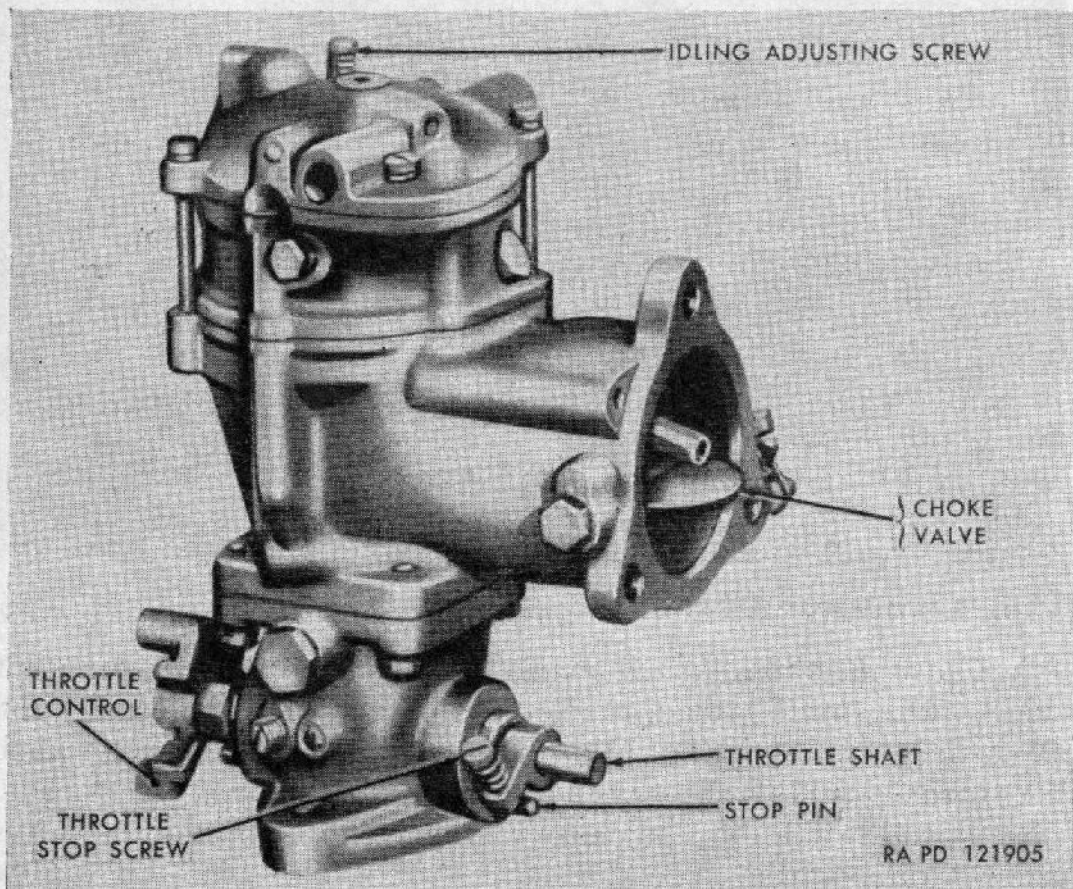

Figure 57. Carburetor assembly.
b. Carburetor Throttle Controls (Each Engine). Unscrew throttle stop screws at each carburetor until throttle shaft arm is against the stop pin (fig. 57). Throttle shaft movement will now be the same for both carburetors. Turn throttle stop screw on front carburetor in (clockwise) against the stop pin to hold the throttle slightly open. Turn stop screw on rear carburetor in even with the first so that both will contact their stop pins. This adjustment will synchronize the throttle controls.
d. Idling Screw (fig. 57). Turn idling adjusting screw in (clockwise) against its seat. Then turn idling screw from 1 to $1\frac{1}{2}$ turns off its seat. Start engines and allow them to reach operating temperature, then close throttle. Idling adjusting screws can now be adjusted for smooth idling of engines. Turning the screws "IN" cuts off air, making the idling mixture richer, turning them "OUT" admits more air, making the mixture leaner. If it is necessary to turn the screws in to within less than one-half turn off their seats to obtain good idling of engines, it would indicate either an air leak or a restriction in the flow of fuel for idling. Look for air leaks at the manifold flanges, at carburetor throttle body to intake gaskets, and at carburetor bowl cover gaskets due to loosened assembly screws or damaged gaskets. A badly worn throttle shaft will produce sufficient air leakage to affect the idling mixture. Dirt or other foreign matter in the idling jet will restrict the flow of fuel for idling and affect the mixture.